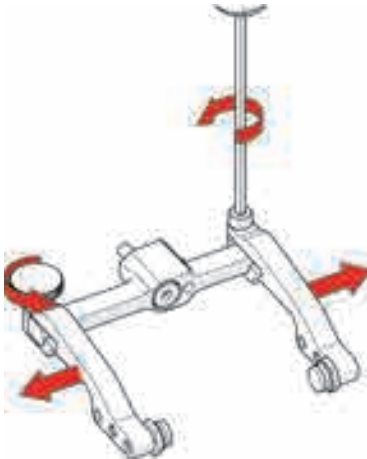

Figure 4-67 Remove probe holder arms
3. Loosen the probe holder arm adjustment knob and the arm clamp screw. Slide the probe holder arms off the yoke (see Figure 4-67 on page 145).